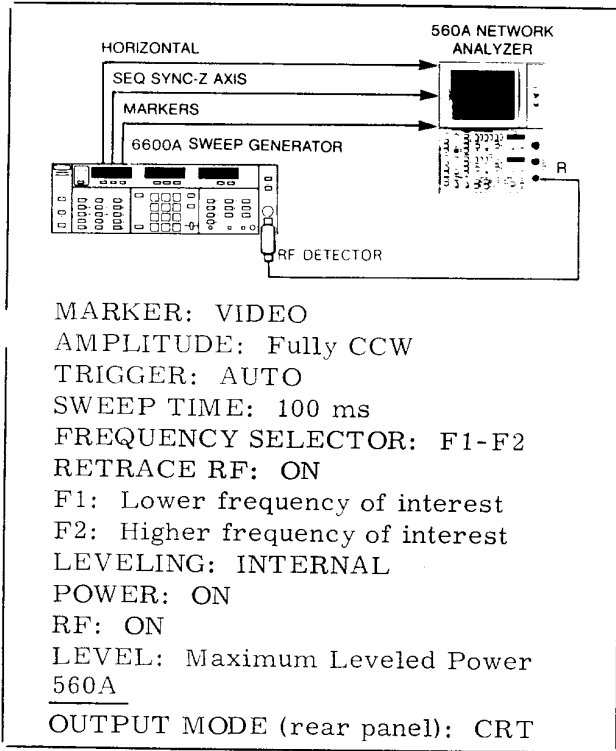

Figure 5-4. Digital PCB Calibration Equipment Setup Using WILTRON 6600A Series Programmable Sweep Generator
shown in Figure 5-4.
1. Connect 560A to sweep generator and position sweep generator controls as shown in Figure 5-4.